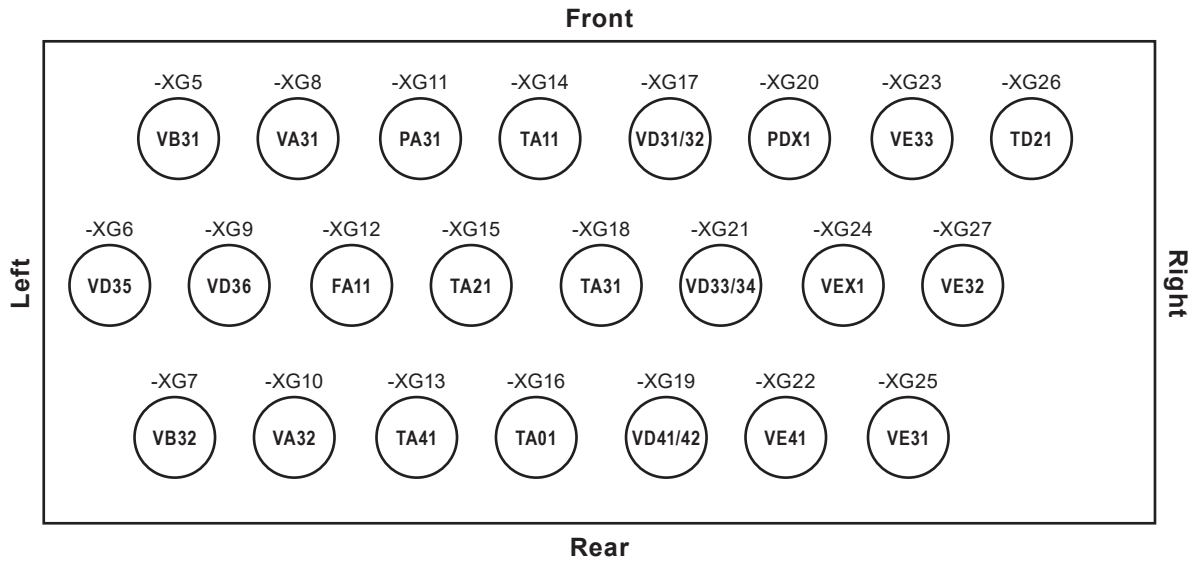

Fig. 5
- If the TA01 Return Loop Temperature sensor option was ordered with your package, please fit this to the return water line before any makeup water is added to the loop. Wiring for TA01 can be found in Fig.5 on page 14.